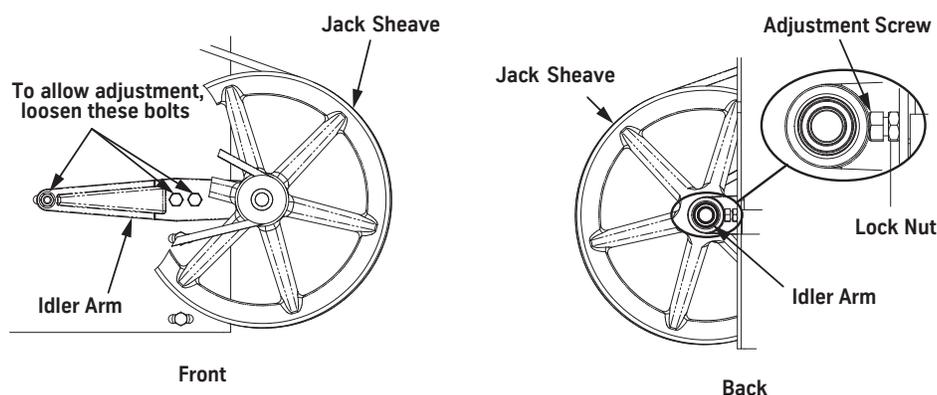

Figure 8 - V Belt Adjustment
- a. Loosen the three bolts on the idler arm and the lock nut on the adjustment screw. See Figure 8 on page 19.